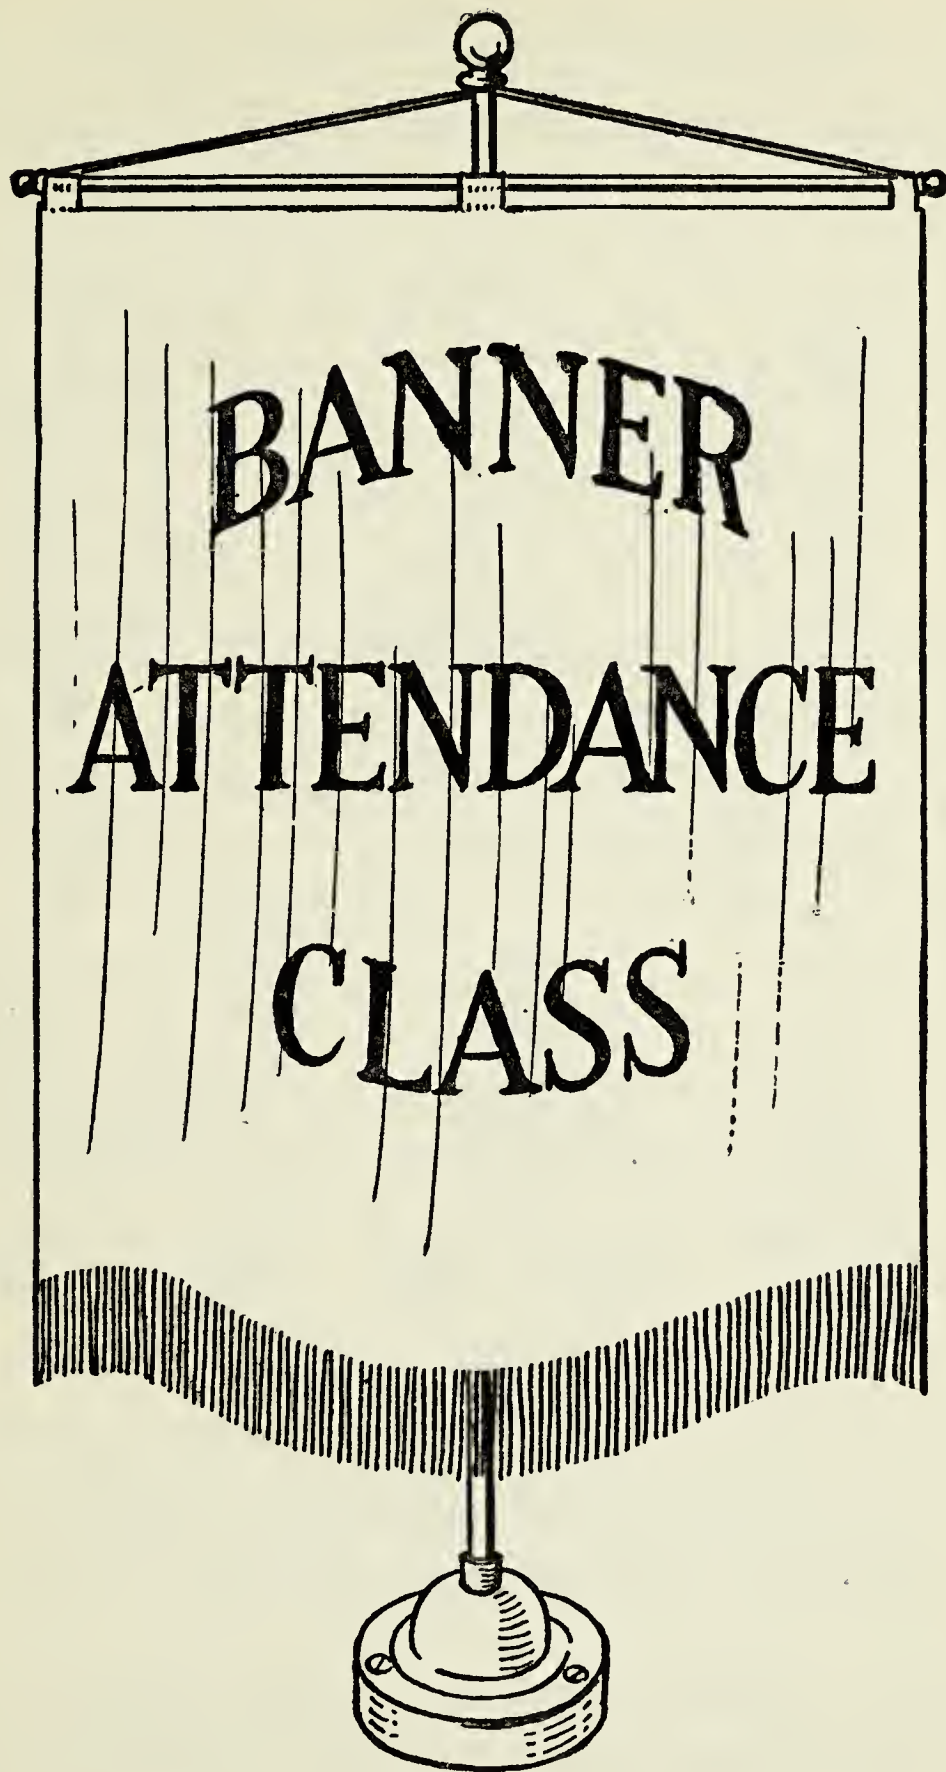

FIG. 247. A STAFF AND BASE FOR A BANNER TO STAND UPON A TABLE OR PEDESTAL
pedestal. Figure 247 shows a base made of one of the brass canopy plates sold for electric-light fixtures (A, Fig. 248), a nipple (B), and a wooden block (C) cut of the same diameter as the canopy